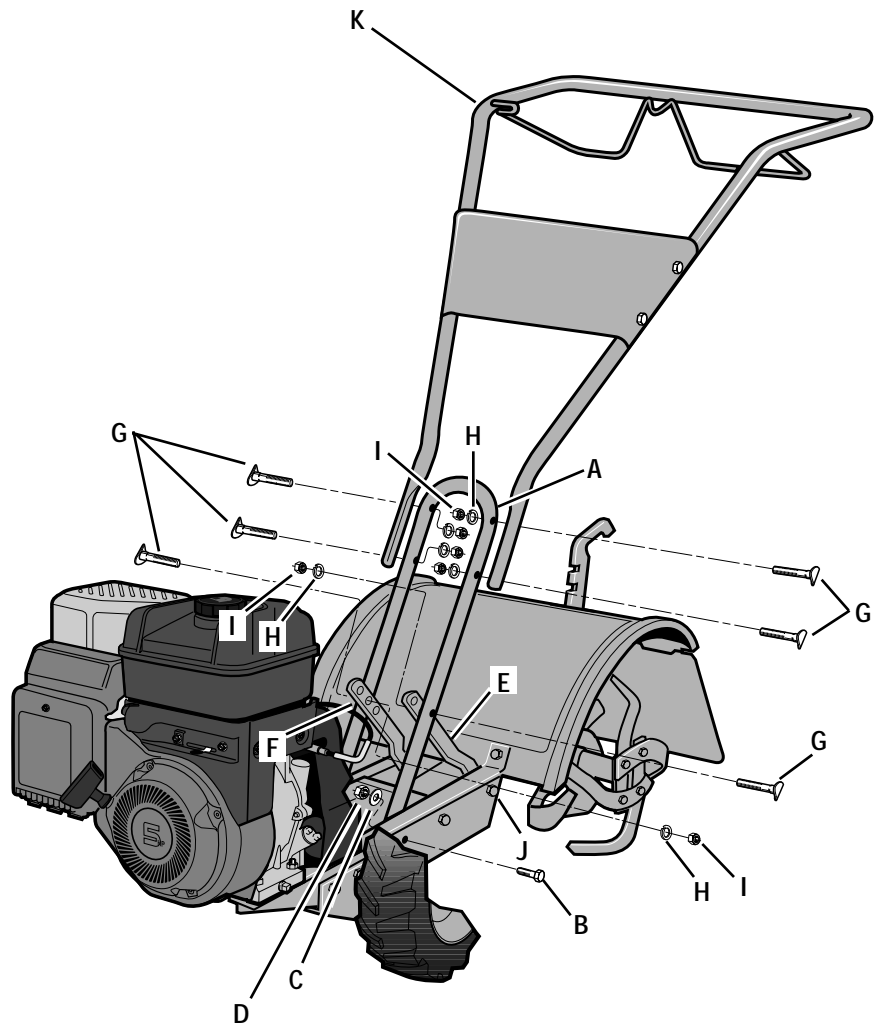

Fig. 2-2: Attach handlebar.
1	Handlebar Support (see A, Fig. 2-2, page 7)
1	Handlebar Assembly (see K, Fig. 2-2)
1. Attach the two legs of the handlebar support (A, Fig. 2-2) loosely to the inner sides of the tiller frame using two 3/8"-16 x 3/4" hex hd. screws (B), 3/8" flat washers (C) and 3/8"-16 hex locknuts (D).
2. Using the middle holes in the handlebar support brackets (E and F, Fig. 2-2), loosely attach the support brackets to the handlebar support (A) using two 5/16"-18 x 1-1/2" screws (G), 5/16" split lockwashers (H) and 5/16"-18 hex nuts (I). NOTE: If a support bracket will not move, loosen attaching screw (J) and nut.
3. Attach the handlebar assembly (K) to the handlebar support (A) using four 5/16"-18 x 1-1/2" screws (G), 5/16" split lockwashers (H) and 5/16"-18 hex nuts (I). Tighten the four screws securely.